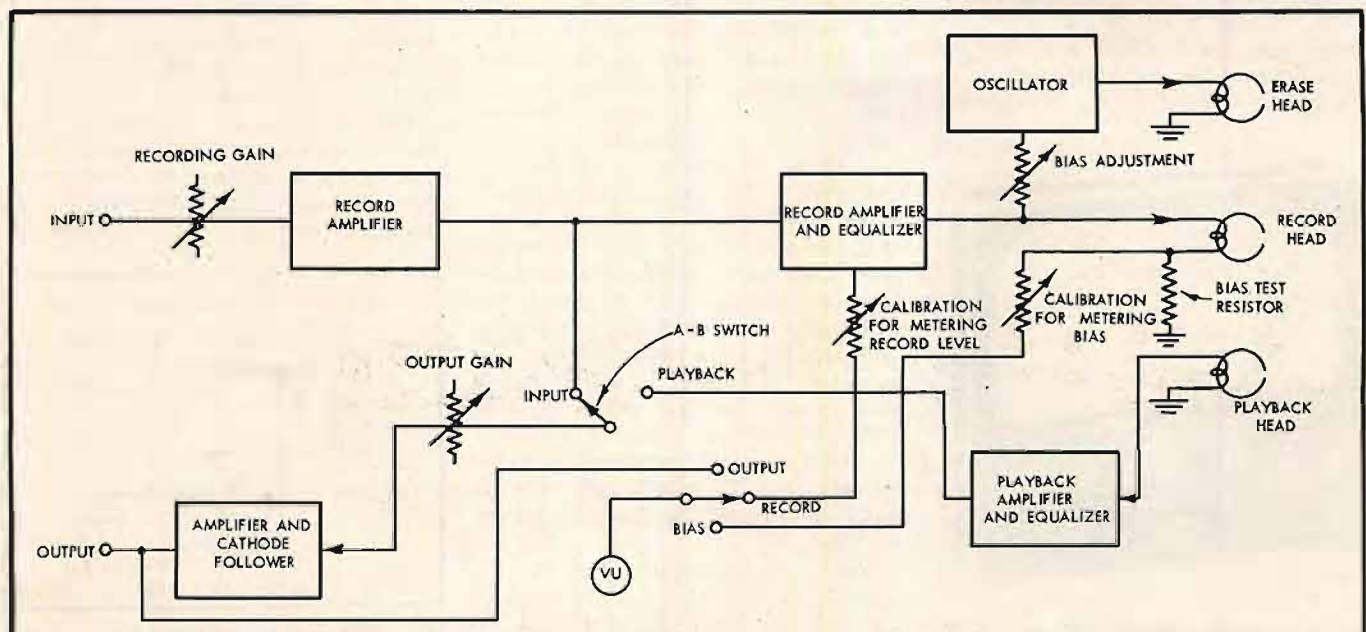
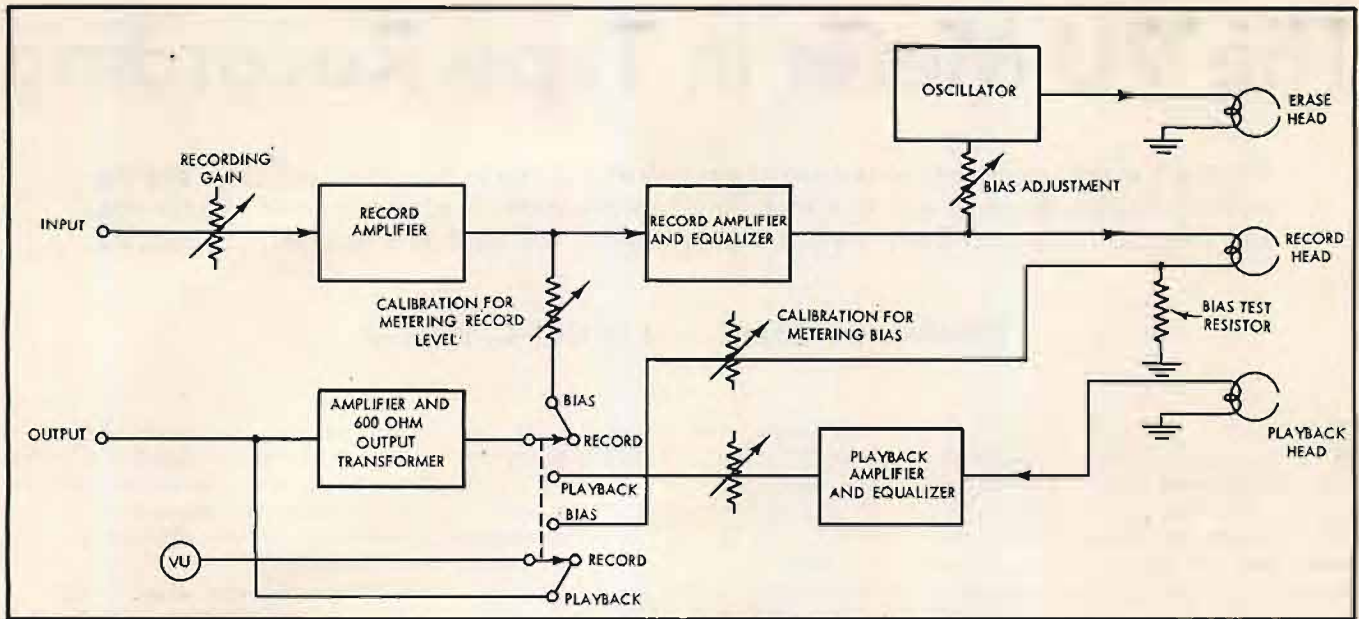
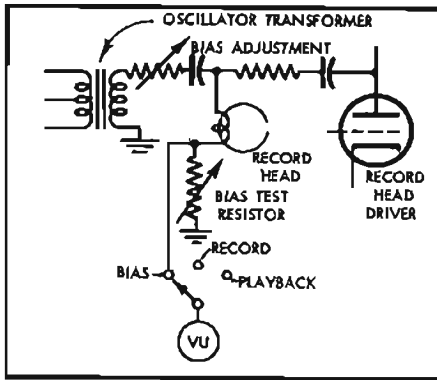
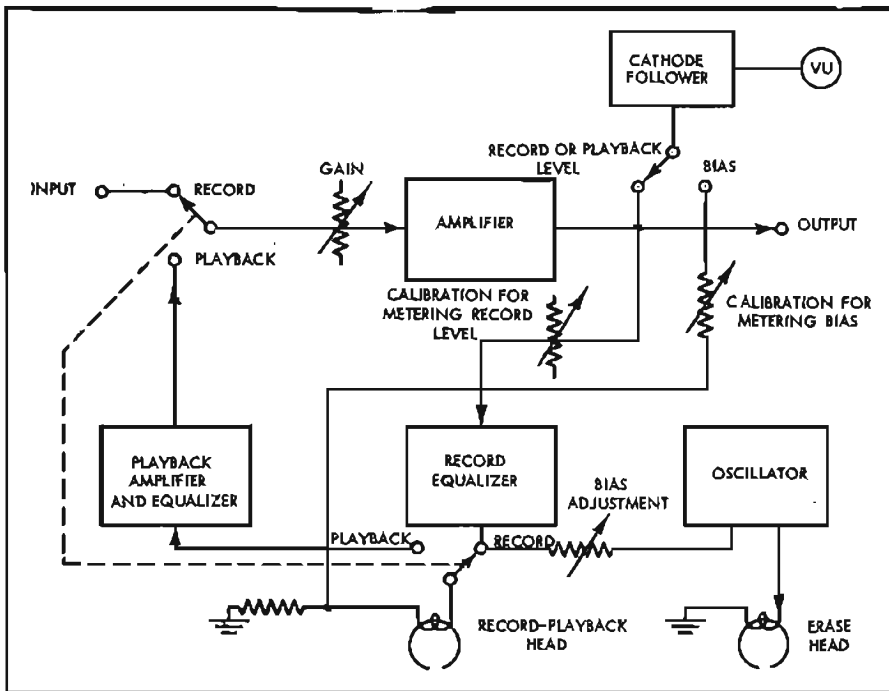

Fig. 1. Typical employment of a VU meter in a tape recorder with separate record and playback heads.
Fig. 2. Alternative employment of the VU meter in a tape recorder with separate record and playback heads.
Fig. 5. Circuit for metering bias current and for calibrating the meter indication. output that may be expected of the playback amplifier.
Fig. 6. Employment of the VU meter in a tape recorder with a combination record-playback head.
5. It permits the very important function of checking bias current accurately. Too much bias reduces both distortion and high-frequency response; too little has the opposite effects. The optimum amount of bias is fairly critical, particularly at 7.5 ips, if high fidelity results are sought. By means of a switching arrangement (Figs. 1, 2, and 6), the VU meter can measure bias current flowing through the record head. A calibrating resistor is employed so that optimum bias corresponds to a specific point on the meter, usually 0 VU.
6. It permits measuring playback level (Figs. 1, 2, and 6). This is important in professional applications, so that the amplitude of the playback signal can be adjusted by means of the level control to meet the requirements of following equipment in a recording or broad-
To measure bias current through the record head, a "test" resistor is employed between one lead of the head and ground; and the meter, via a switching arrangement, is placed across the test resistor. In order that a given point on the meter, usually 0 VU, should correspond to correct bias current, a variable calibrating resistor is used. Sometimes this calibrating resistor is the same as the test resistor, which is made variable, as in Fig. 5. Frequently, however, a separate calibrating resistor is employed, as shown in Figs. 1 and 2.
Figure 1 illustrates how the VU meter is driven in some tape recorders. The VU meter can be switched across a 600-ohm transformer, which is associated with a stage of amplification. This amplifier stage can be connected to the record section, via a calibrating resistor, so that it serves as a record-level indicator, or it can be connected to the playback section so that the meter serves
A cathode follower typically has an output impedance of about 500 ohms, and can be satisfactorily used to drive the VU meter, as illustrated in Fig. 2. Here the meter is driven by the cathode follower only when measuring playback level. For measuring record level and bias current, it is connected to the appropriate points in the circuit through calibrating resistors. Note that by means of an A-B switch the meter can compare the incoming signal with the playback signal; this requires that the VU meter be switched to the "output" position.
In some circuits the VU meter is not placed directly across the output, as in Figs. 1 and 2, but is driven by its own cathode follower, as illustrated in Fig. 6. The advantage is that the VU meter does not load down the audio signal. Though specifications call for the VU meter to produce no more than 0.2 per cent harmonic distortion when connected in the standard manner, this may correspond to a greater, and significant, amount of intermodulation distortion.
In most instances the VU meter is connected to the record signal at a stage prior to equalization, as illustrated in Figs. 1 and 6, rather than after equalization as in Fig. 2. Record equalization in high-quality tape recorders generally conforms to NARTB standards, so that it consists of a little bass boost (about 3 db at 50 cps) and of considerable treble boost (20 db or more at 15,000 cps at 7.5 ips).
The post-equalization connection, Fig. 2, has the advantage of indicating the actual amount of signal applied to the tape at all frequencies, so that one may guard against tape overload at the high frequencies, which are so greatly boosted at the commonly used speed of 7.5 ips.